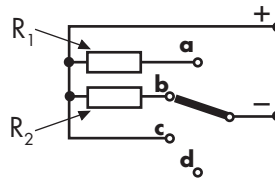

Figure 8.1:
1. Connect the appropriate input test circuit to the channel under test (see **Figure 8.1** & **Table 8.1**).